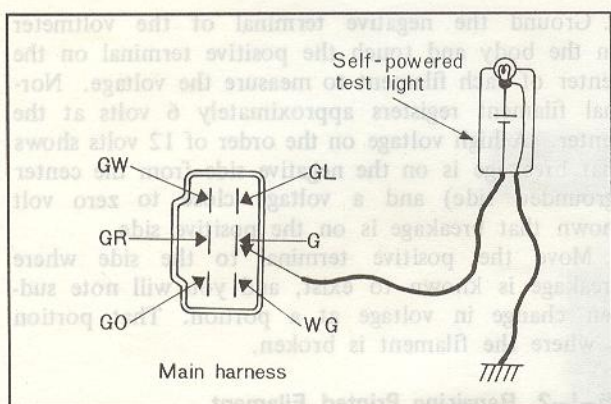

Fig. 15-66 Checking switch circuit
3. Connect a self-powered test light (or ohm-meter) between the green wire and ground. The bulb should glow when the horn button is in pushed on. (Fig. 15-66)